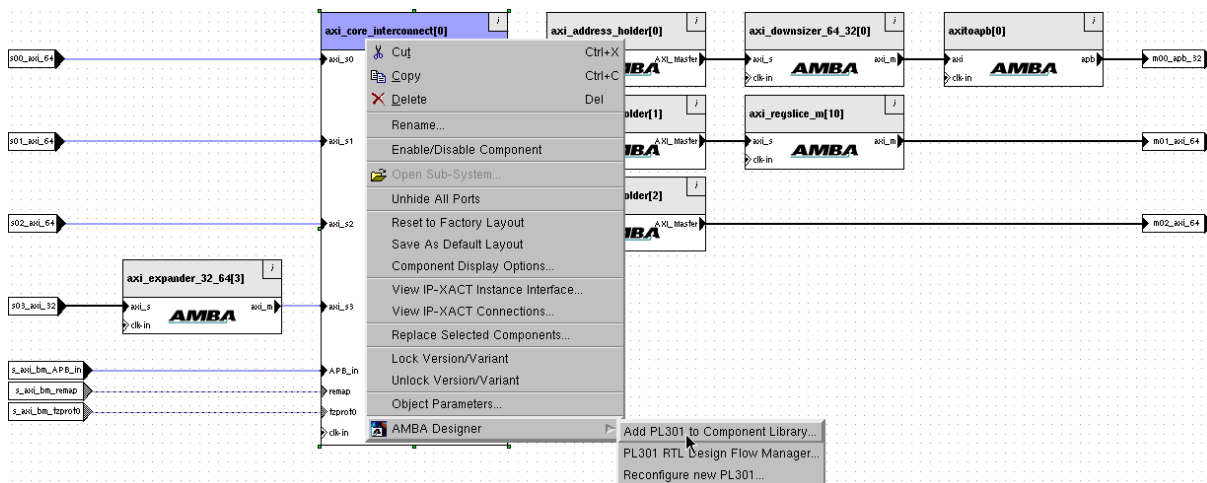

Figure 4-26 Adding the interconnect to the component library
2. Select **AMBA Designer** → **Add PL301 to Component Library...** from the context menu, as Figure 4-26 shows.